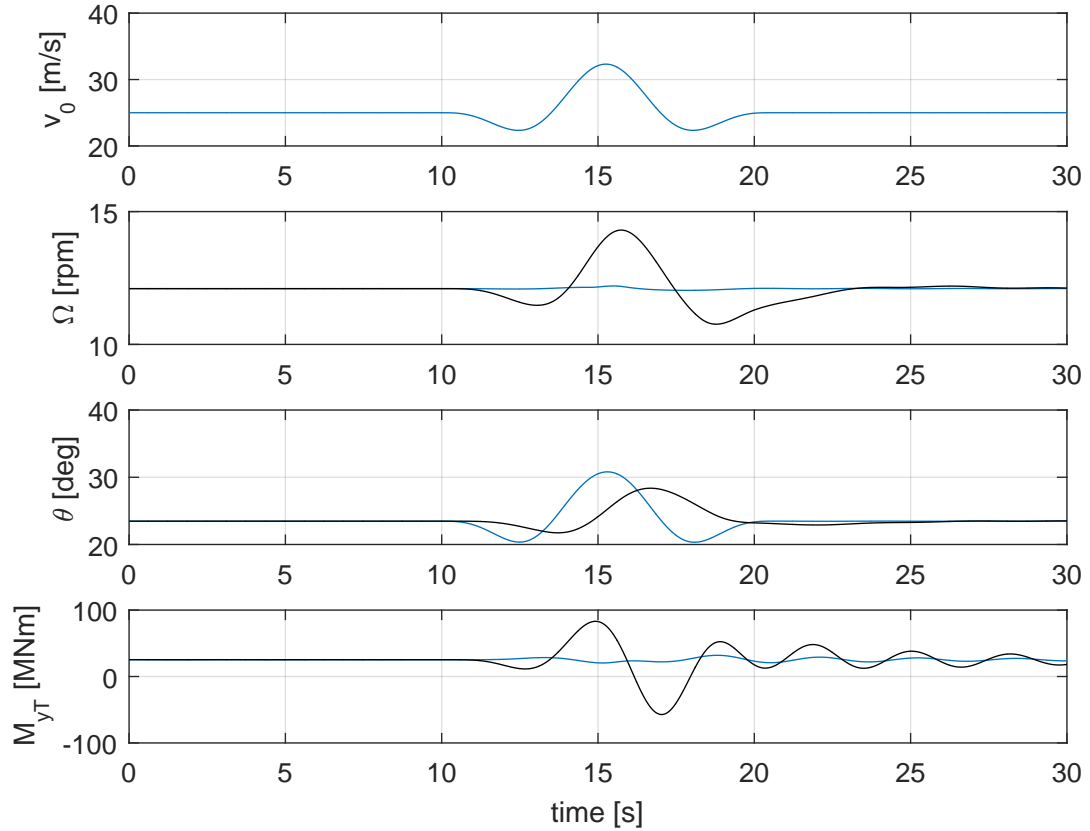

Figure 1: Reaction to an EOG. Feedback only (black), feedback combined with feedforward (blue).
- Run the brute-force-optimization to obtain the results displaced in Figure 1 with the best load reduction. How much is the ultimate load on the tower reduced?